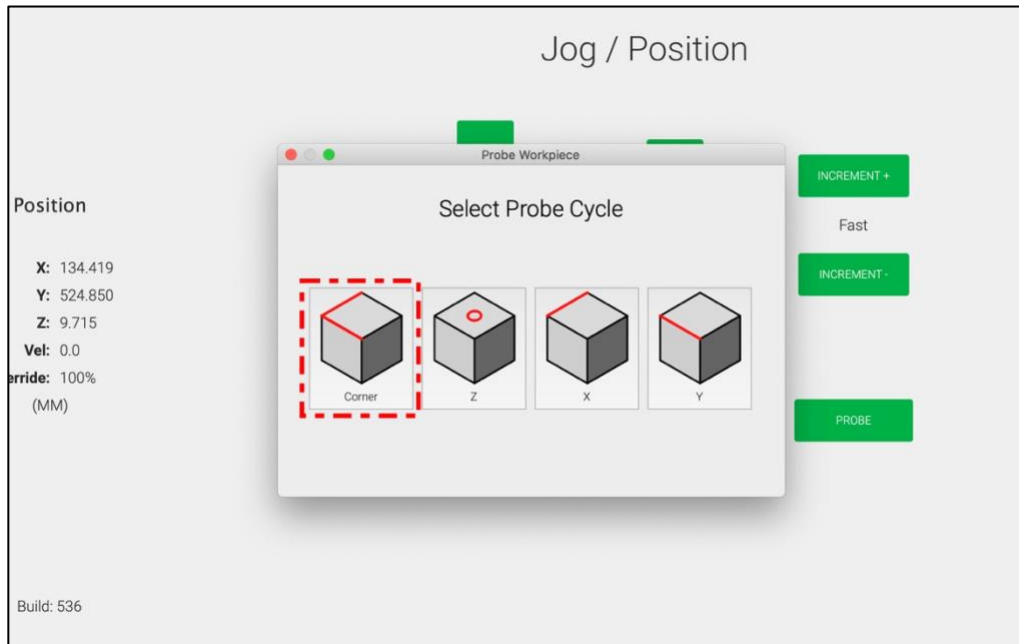

Figure 8
11. Select the **Corner** probe cycle. See *Fig. 8*.